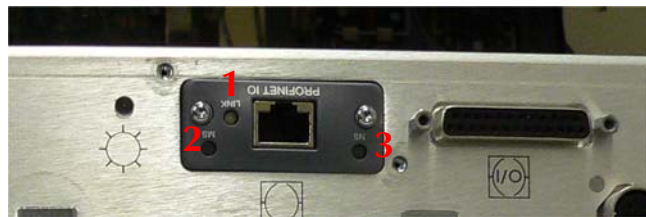

Figure B-40 Profinet and I/O Connectors
5. Remove the (Figure B-40):
- ❑ Two (2) Philipps screws holding the Profinet connector.
8. Reinstall the (Figure B-40):